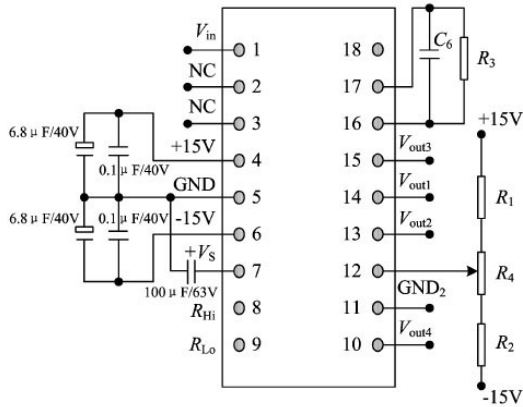

Fig. 5 Connection diagram for typical application
8. Connection diagram for typical application (Fig. 5)
Connect the circuit according to Fig. 5, C_6 and R_3 are the feedback elements of DC amplification stage in the circuit. R_3 can take 20KΩ. R_1 , R_2 and R_4 are used for zero adjustment of the system.